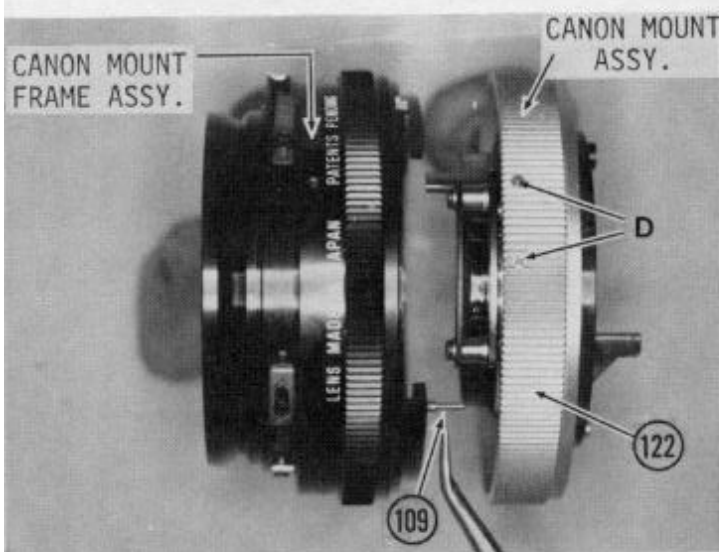
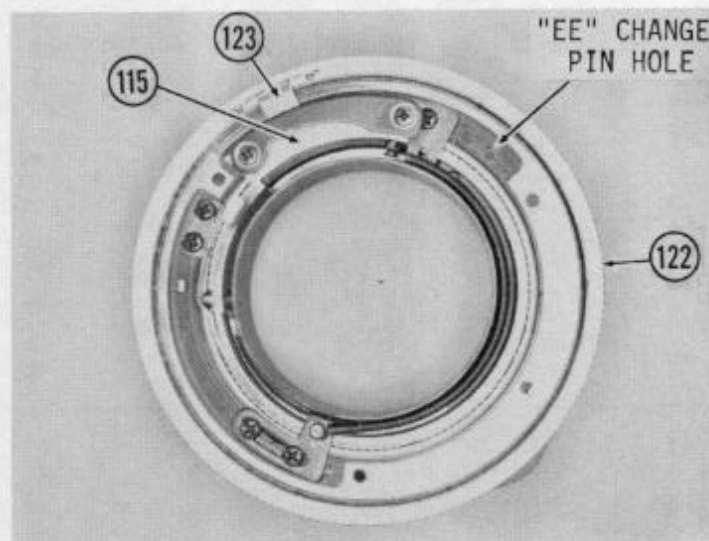

Fig. 46
Fig. 47
- 5.4.1.7 Separate Canon Mount Assembly from Canon Mount Frame Assembly removing Change Pin (109) and Change Pin Spring (110) to prevent loss. (Fig. 46)
- 5.4.1.8 Between Canon Mount and Canon Mount Frame will usually be found one or more Rear Focus Spacers (111); remove and lay aside.
- NOTE: If you have rotated Canon Mount Locking Ring (122) from the position set for separation, rotate it so that Signal Lever (123) is in position shown in Fig. 47). (Signal Lever in contact with pin on underside of Diaphragm Setting Ring (115).
- 5.4.1.10 Remove two screws (D) (Fig. 46) and Signal Lever (123) (Fig. 47)